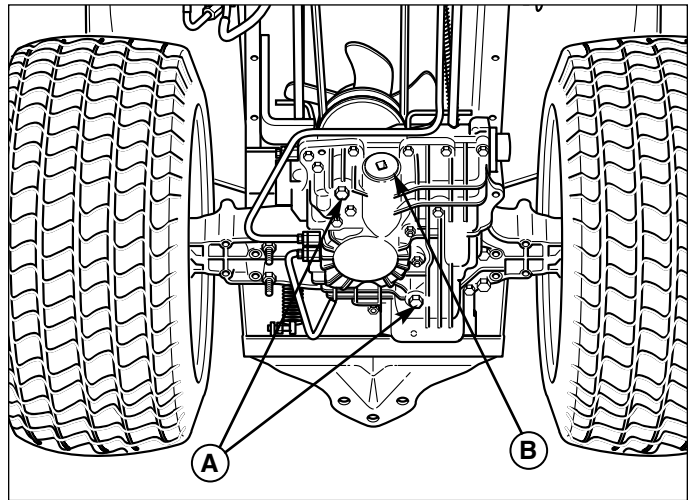

Figure 34. Transmission Drain Plugs
1. Place a drain pan under the transmission and remove the two 14mm drain plugs (A, Figure 34).
3. Remove the filter access cap (B, Figure 34).